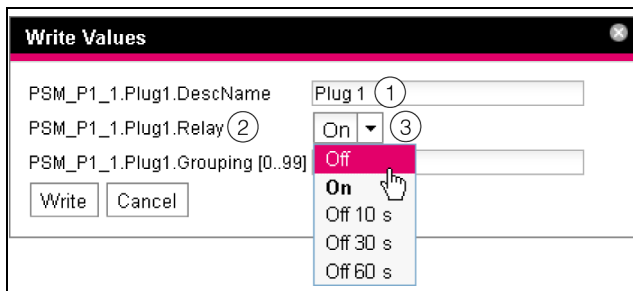

Fig. 28: Performing switch commands
DescName	The specific description that was assigned to the output or the socket (fig. 28, item 1).
Command	The command to be performed. The following commands are supported: "Off", "On", "Off 10 s", "Off 30 s", "Off 60 s" (fig. 28, item 3).
Device	The device index (ID number) that is prefixed to the associated Real Device in the navigation area of the CMC III PU website (fig. 28, item 2).
Command	The command to be performed. The following commands are supported: "Off", "On", "Off 10 s", "Off 30 s", "Off 60 s" (fig 28, item 3).